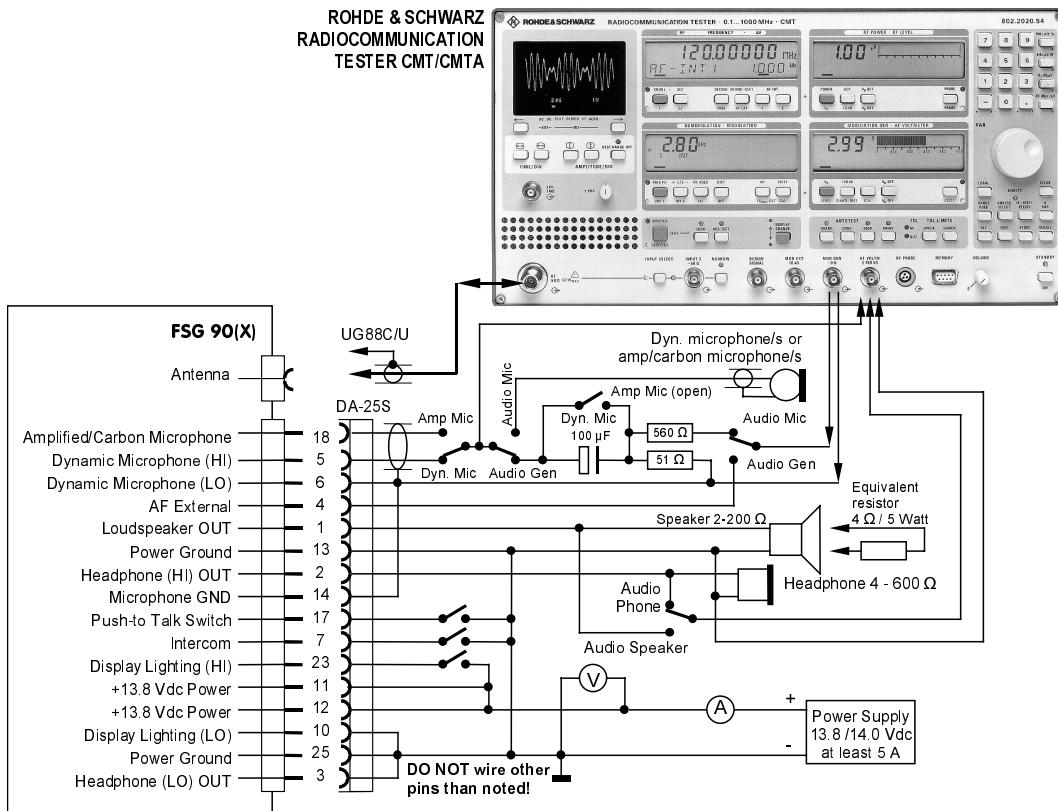

Fig. 3-1: **FSG 90 System**
- a) Interconnect the radio with a test wiring harness (according to figure 3-1) to the test bench setup. For **FSG 90** set supply to 13.8 Vdc at radio input terminals. For **FSG 90-H1** set supply to 14.0 Vdc at radio input terminals. Turn ON the radio with the ON/OFF-VOL switch on front panel. Switch OFF the Squelch (push SQ button).